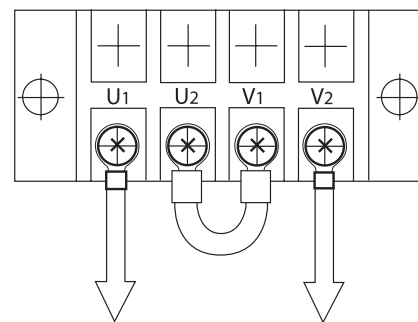

Figure 23: Output Terminal Board, 240 Volt Output
- b. Connect U2 to V1 on the output terminal board (Figure 23).